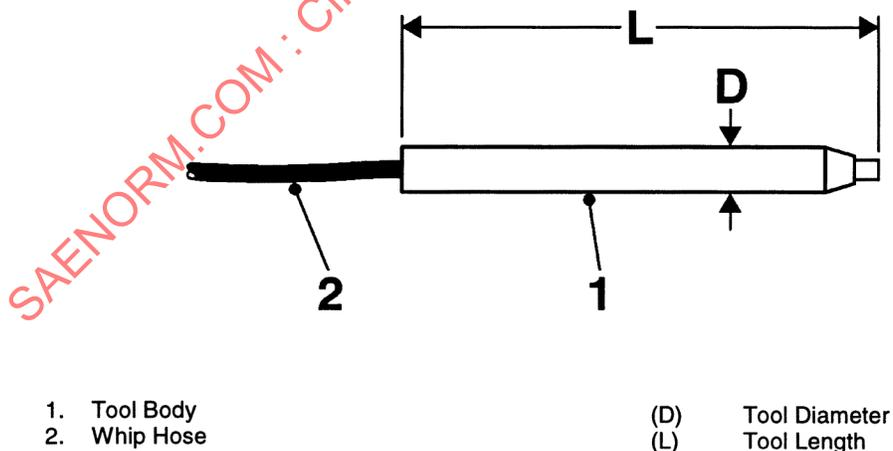
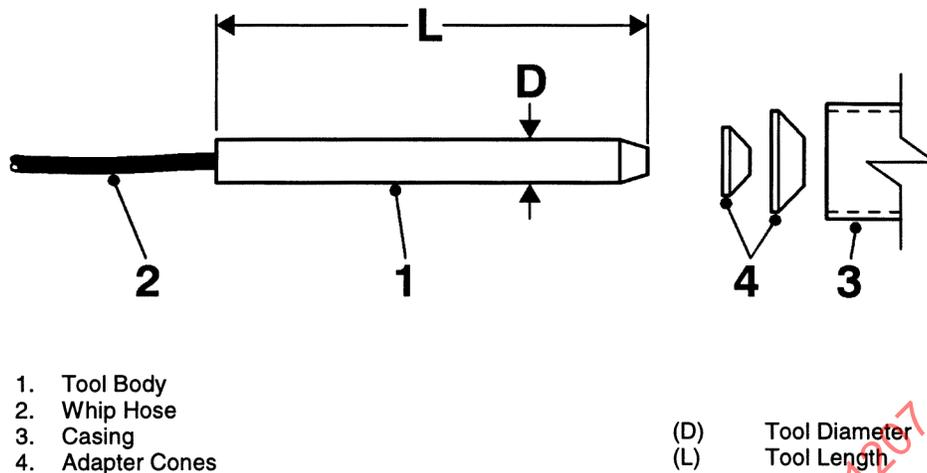

FIGURE 5—PIERCING TOOL
FIGURE 6—RAMMING MACHINE
4.4.1 NOMENCLATURE—(Refer to Figure 5 for Piercing Tool and refer to Figure 6 for Ramming Machine)